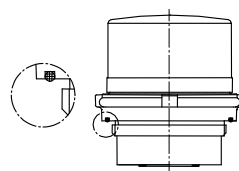

Fig. 2
- 1.7. Check whether the new O-ring provided with the measuring insert sits correctly on the measuring insert. If this is not the case then the O-ring must be inserted in the correct groove on the meter insert (figure 2). It must be well lubricated. Only the original manufacturer seals must be used.